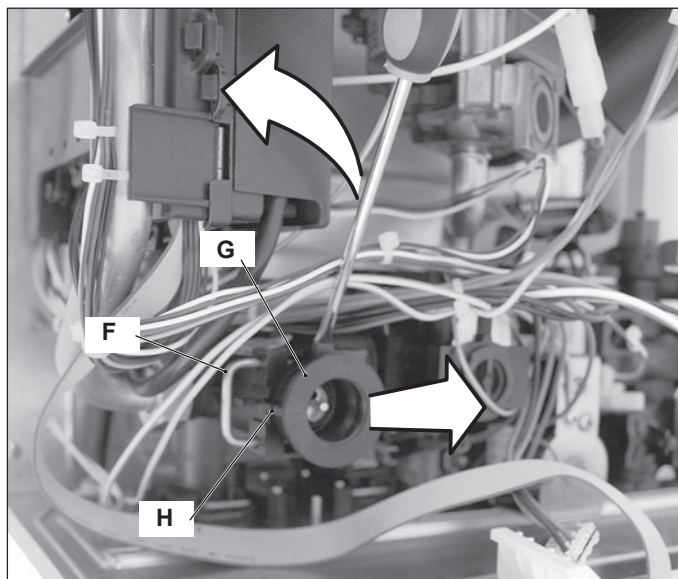

Figure 8.5
- 4 Remove the fixing spring F (Figure 8.5)
- 5 Remove the three way diverter valve G by levering with a screwdriver in as shown in Figure 8.5.
Attention. When reassembling the three way diverter valve be sure that the three way diverter is correctly oriented by matching the reference H with the notch of the water group Figure 8.5.